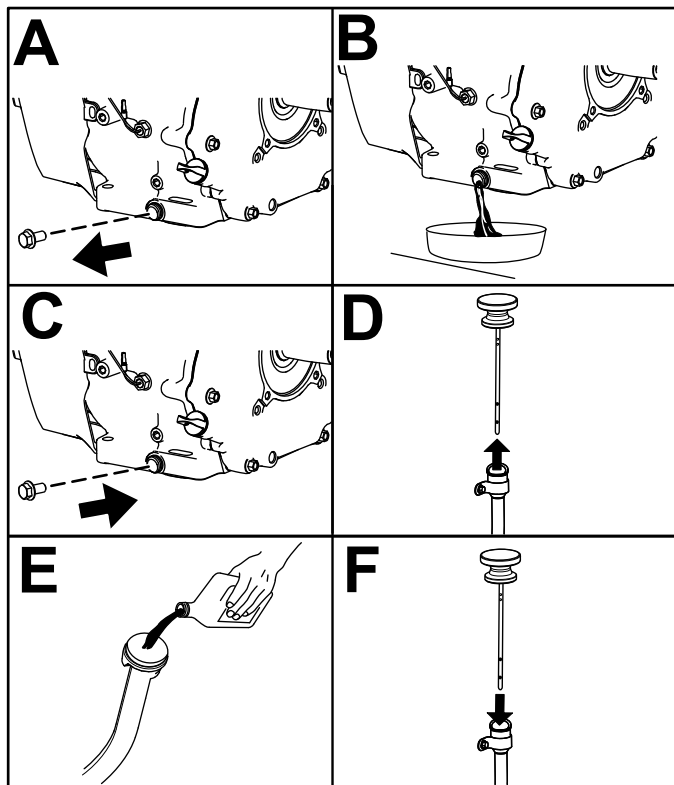

Figure 39
6. Change the engine oil as shown in Figure 39.